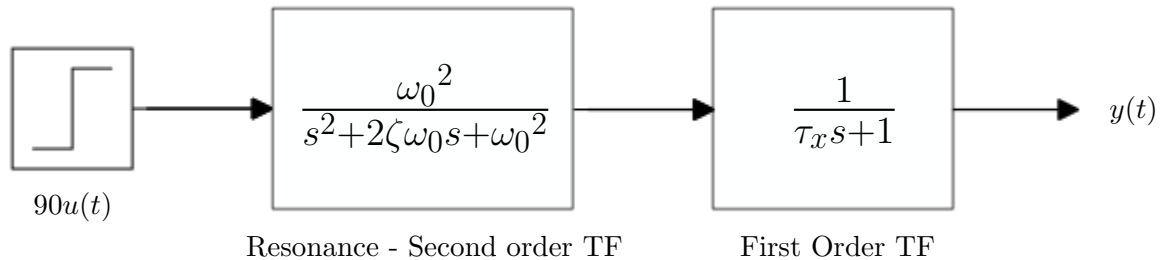

Figure 2: Simplified form of closed loop transfer function
2. Separate $T_p(s)$ into 2 parts as shown in Fig. 2.